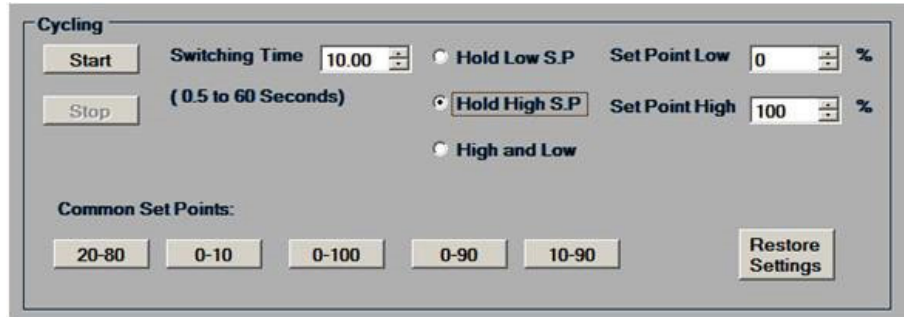

Figure 13-71 Pressure Valve Tuning, Cycle Settings
3. Set up the setpoint square wave, as shown in Figure 13-71 below. You should pick high and low set points that are at the expected range of your process application.